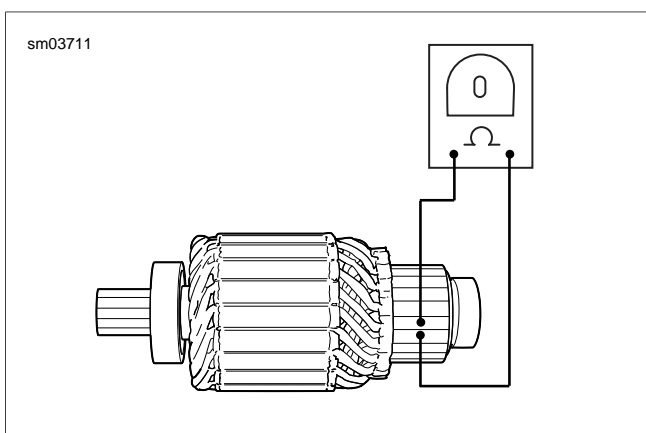

Figure 3-12. Armature Open Test
- See Figure 3-12. Check for an OPEN ARMATURE with an ohmmeter or continuity tester.